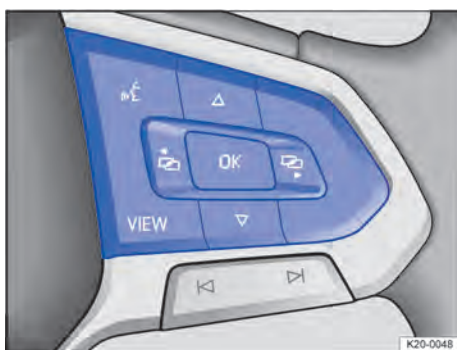

Fig. 10 Right-hand side of the multifunction steering wheel: controls for using the menus and information displays in the instrument cluster.
Vehicles with multifunction steering wheel: If any priority 1 warnings are displayed, you will be unable to open any menus → page 19. Some warnings can be confirmed and hidden with the **OK** → Fig. 10 button on the multifunction steering wheel.
The main display can be changed by pressing the **VIEW** → Fig. 10 button. The following views can be shown in the display area:
2. Press the **OK** → Fig. 10 button, several times if required, if a message or the vehicle pictogram is displayed.
3. Press the  → Fig. 10 or  → Fig. 10 button to display the menus and to browse through a menu.
4. To open the menu or information display shown, press the **OK** button → Fig. 10 or wait until the menu or information display opens automatically after a few seconds.
1. Select the right or left secondary display area with the  → Fig. 10 or  → Fig. 10 buttons on the multifunction steering wheel.
2. Select the desired secondary display with the  → Fig. 10 or  → Fig. 10 arrow buttons.
3. Confirm the selection with the **OK** → Fig. 10 button.
2. Press the **OK** button → Fig. 10 to make the required changes.
1. In the displayed menu, press the rocker switch **TRIP** → Fig. 10, → Fig. 10 at the top or bottom until the desired menu option is marked.
1. Press the  or  → Fig. 10 button.
- To switch between the current and previous menus, press the **VIEW** button → Fig. 10.
- Press and hold the **VIEW** → Fig. 10 button to show or hide secondary displays.
Depending on equipment, the digital instrument cluster may display a detailed navigation map. To display the map, select the **Navigation** display area in the digital instrument cluster by pressing the **VIEW** → Fig. 10 button on the multifunction steering wheel.
1. To zoom in and out, press the  or  → Fig. 10 arrow button on the multifunction steering wheel.